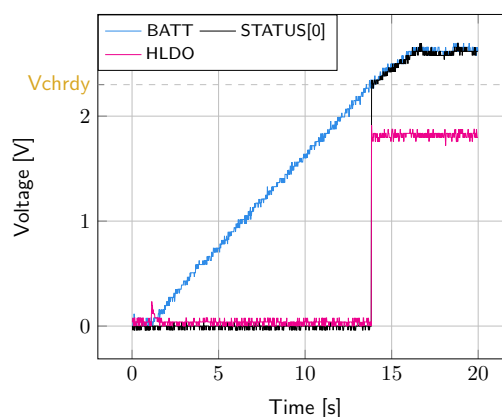

Figure 2: **STATUS[0]** and **HLDO** evolution with **BATT**
- **BATT**: Voltage rises as the power provided by the source is transferred to the storage element (see Figure 2).
- **HLDO**/**LLDO**: Regulated when voltage on **BATT** first rises above **Vchrdy** (see Figure 2).
- **STATUS[0]**: Asserted when the LDOs are ready to be enabled (refer to Section 7.2 "Normal mode" of the AEM30940 datasheet) (see Figure 2).